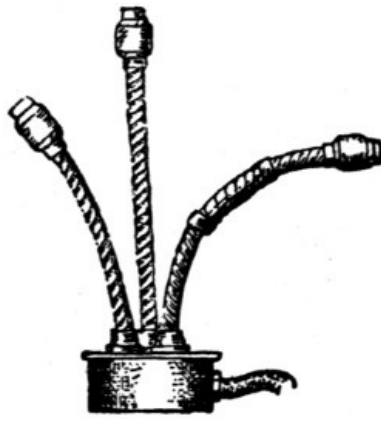

FIGURE 198.
*Flowers.*—On the vaudeville stage, electrically lighted flowers are sometimes used. These are often wired by simply running fixture wire or flexible cord along a wire stem and fastening a small socket to it. Flowers lighted in this manner, however, will not be allowed in theaters where there is inspection. A better method is shown in Figure 198. Armored cord is used for the stem and a miniature socket is placed at the end. All splices are within the junction box which supports the stems. Instead of the armored cord ordinary fixture tubing may be used. Baskets of flowers and small bouquets are generally lighted from batteries.